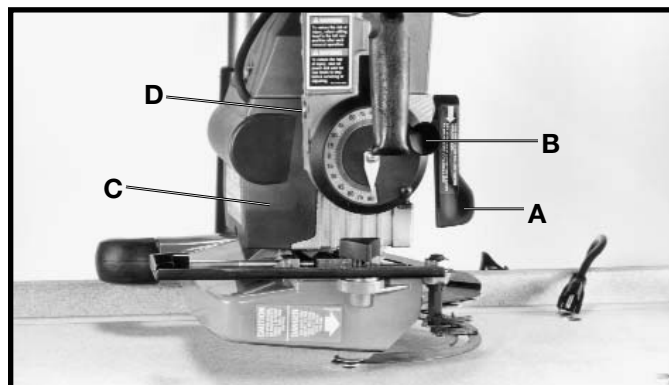

Fig. 69
2. Loosen bevel clamp handle (A), release bevel index release knob (B), and turn motor (C) to vertical position as shown in Fig. 69. **NOTE: IF BLADE GUARD CONTACTS TABLE SURFACE, RAISE TRACK ARM.**
3. Loosen bevel clamp handle (A) Fig. 69, several turns, until hex head of screw (D) can be pushed out of hex-shaped recess in yoke.
4. Turn screw (D) Fig. 69, in the direction the handle needs to be turned, one or two flats of the hex head and push it back into hex-shaped recess in yoke.
5. Tighten bevel clamp handle (A) Fig. 69. **NOTE: Screw is left hand thread - turn clamp handle counterclockwise to tighten.**